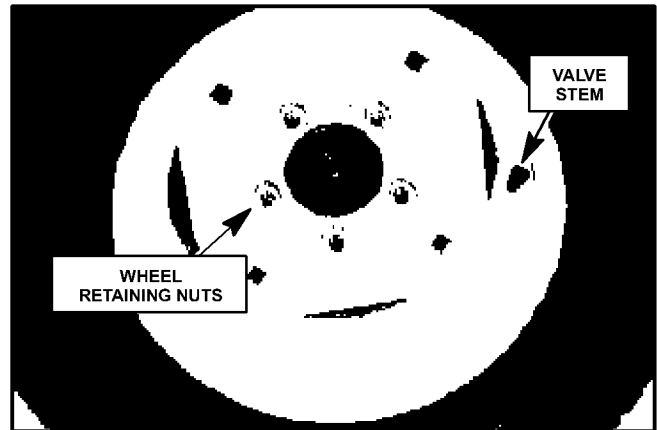

Figure 35
1. Remove the wheel retaining nuts (See Fig 35) and remove tire and wheel assembly from hub.
2. Install the tire and wheel by reversing the above sequence. Make sure valve stem (See Fig 35) is located toward the outside.